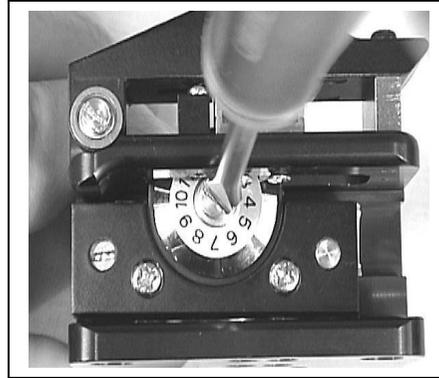

Figure 29. Loosening of the cleaver blade
- The splice should look like in fig. 29.